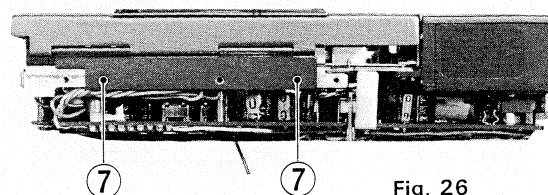

Fig. 26
D. Removal of cassette lid ass'y (Fig. 26)
2. Remove 2 screws (7) SSSK1720M.